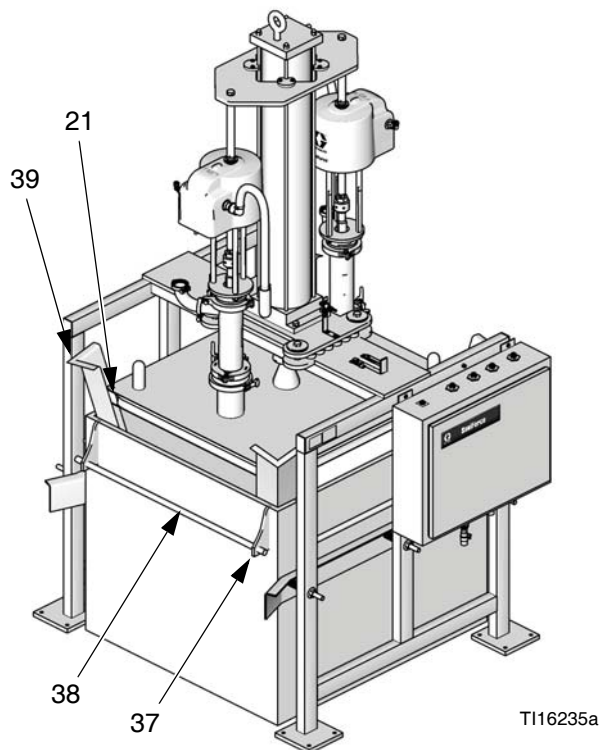

Fig. 15
5. Secure the bag sides by using clamps (37) and tubes (38). See FIG. 15.
8. Make sure the corner seals (21) are in place.
9. Use corners (39) to help guide the plate. See FIG. 15.